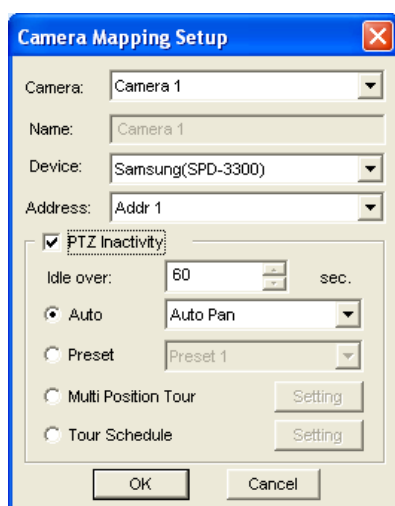

Figure 1-73
1. In the Camera Mapping Setup dialog box (Figure 1-73), select **PTZ Inactivity**.
1. Select **Multi Position Tour** on the Camera Mapping Setup dialog box (Figure 1-73), and click the **Setting** button. This dialog box appears.
1. Select **Tour Schedule** on the Camera Mapping Setup dialog box (Figure 1-73), and click the **Setting** button. This dialog box appears.
Note: It is required to set more than one span so that a specified camera behavior will only run in the defined time frame. Otherwise, you can select the **Auto**, **Preset** or **Multi Position Tour** option (see Figure 1-73) to configure the idle protection.